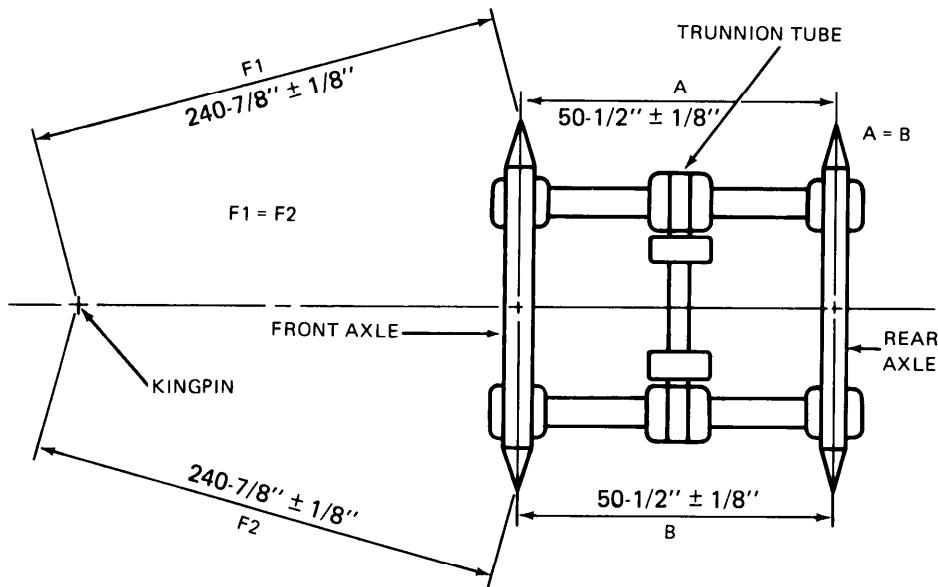

Figure 5-6. Axle Alignment
- (1) Measure the distance from the kingpin to the centerline of the spindles on the front axle (fig. 5-6). The measurement should be 240 - 7/8" ± 1/8 inch.
- (2) Tighten u-bolts and spring cap bolts on front axle.
- (3) Align rear axle with the front axle by measuring between the spindles. The measurement should be 50 - 1/2" ± 1/8 inch.
- (4) Tighten rear axle u-bolts and spring cap bolts.
- (5) Recheck the alignment of the front axle with the kingpin and the rear axle with the front axle.